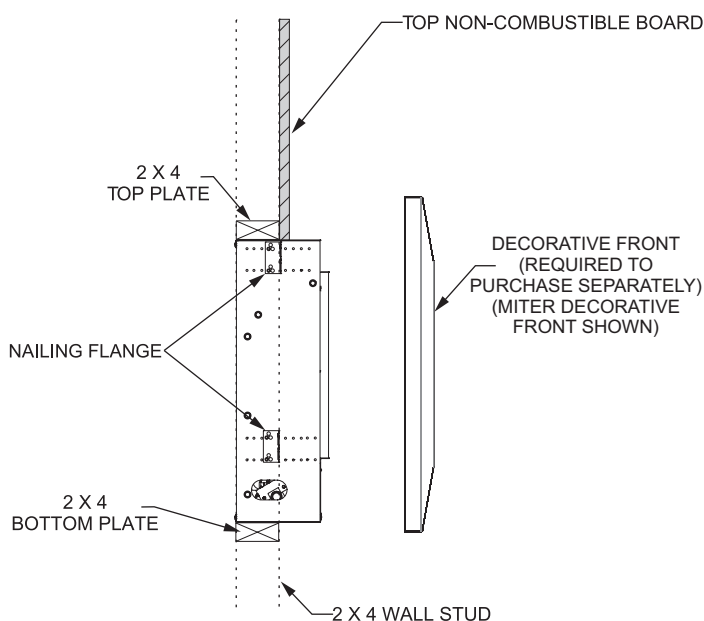

Figure 34
26. Install decorative front by inserting hook on the front above the top opening in the fireplace. Verify that the decorative front is level and fully seated. **See Figure 34.**